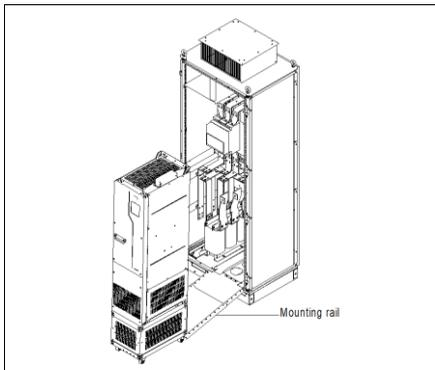
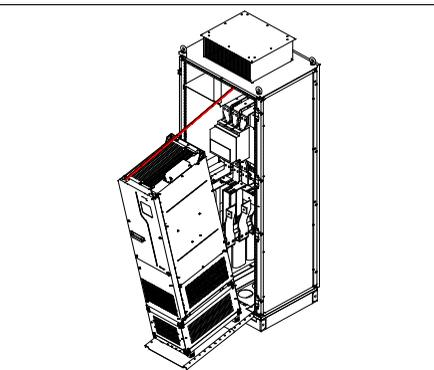
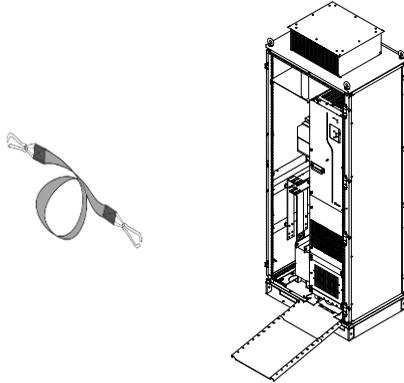

Figure 4-15 Aligning the VFD casters with the mounting rail
Figure 4-16 Pushing the VFD into the cabinet slowly
Figure 4-17 VFD already in the cabinet
4	Arrange two people to align the VFD casters with the mounting rail and push the VFD to the cabinet. (See Figure 4-15 and Figure 4-16. Use the auxiliary rope for mounting to prevent the VFD from side tipping during the push-in or push-out, as shown in Figure 4-17.)
- B. Fix the mounting bracket to the nine-fold profile cabinet frame base with six M5 self-tapping screws, as shown in the following figure. For details about mounting bracket dimensions, see Figure 4-15 and Table C-8.
**Note:** Since the VFD barycenter is too high, use the auxiliary rope for mounting to prevent the VFD from rollover during the push-in or push-out. See Figure 4-17.